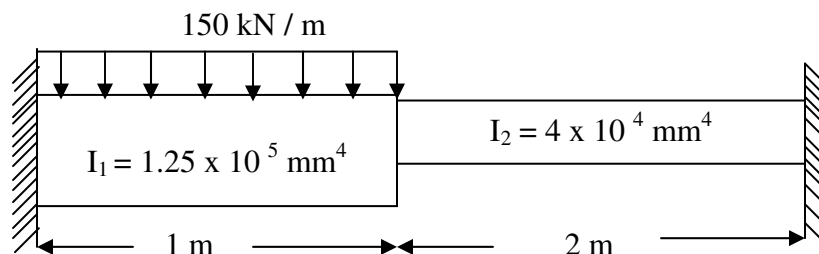

Figure: 3
- Find the deflections and support reactions for the beam shown in Figure: 3. Take $E = 200$ GPa. [16]